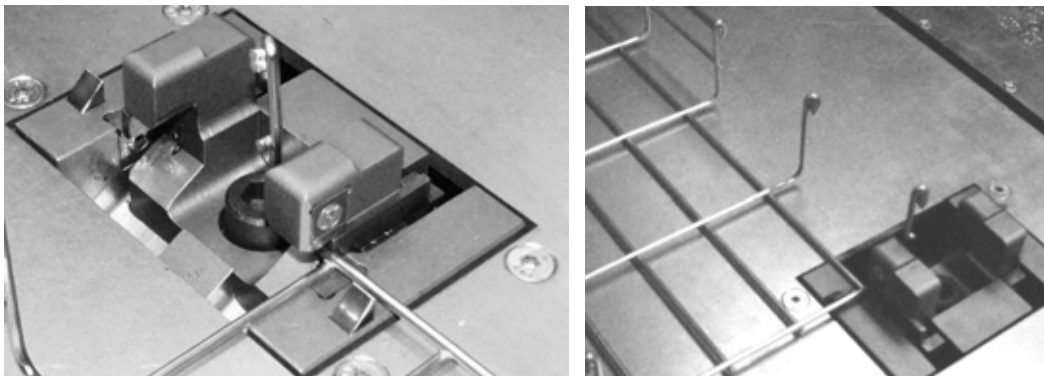

*Fig. 4.28 – Lateral double cuts*
3. carry out all lateral double cuts (fig. 4.28) following the procedure described in Paragraph 4.3.2.5 “Top/tail cut”;